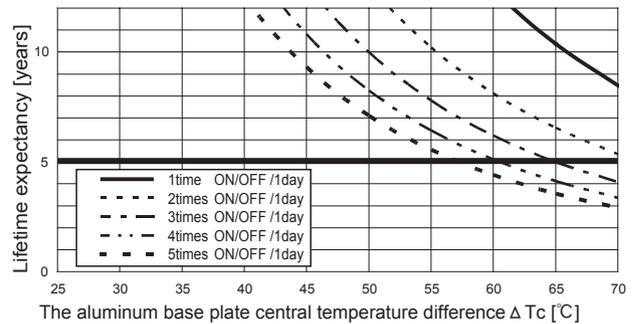

Fig.6.1 Lifetime expectancy against rise/fall temperature difference
- Product lifetime expectancy depends on the aluminum base plate central temperature difference (ΔT_c) and number of cycling in a day is shown in Fig.6.1. If the aluminum base plate center part temperature changes frequently by changing output load factor etc., the above the lifetime expectancy design should be applied as well.